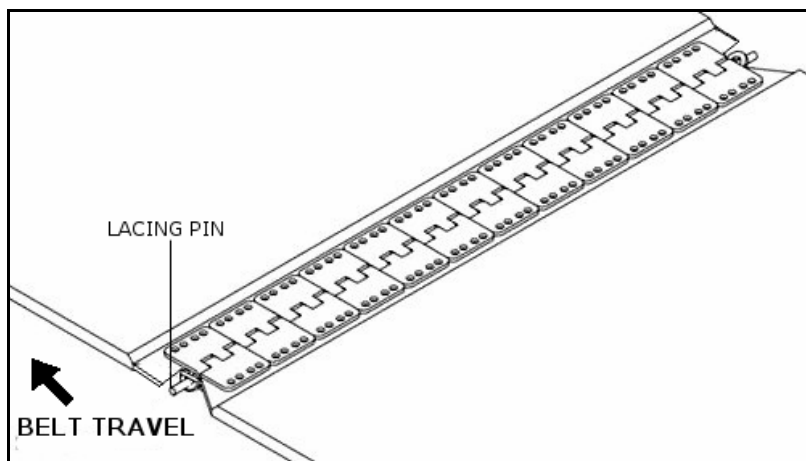

Figure 6.3 Belt Lacing Pin
4. Remove the lacing pin (see Figure 6.3).